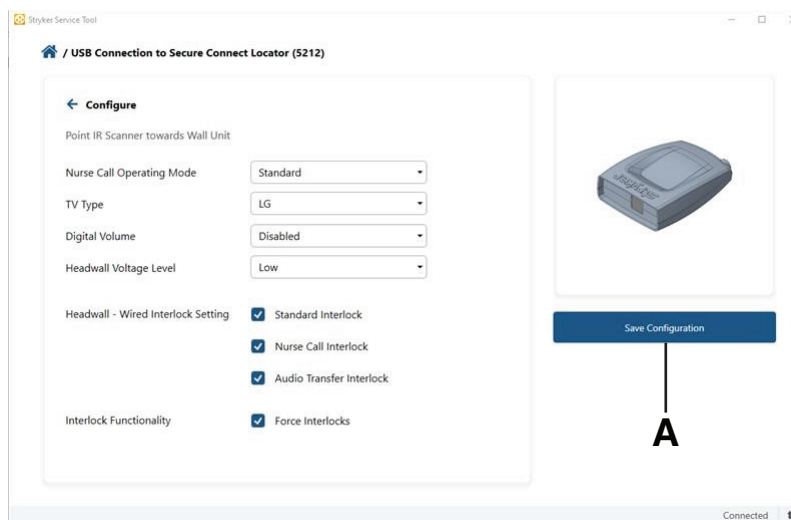

Figure 4 – Stryker service tool
2. Select **Save Configuration (A)** (Figure 4).